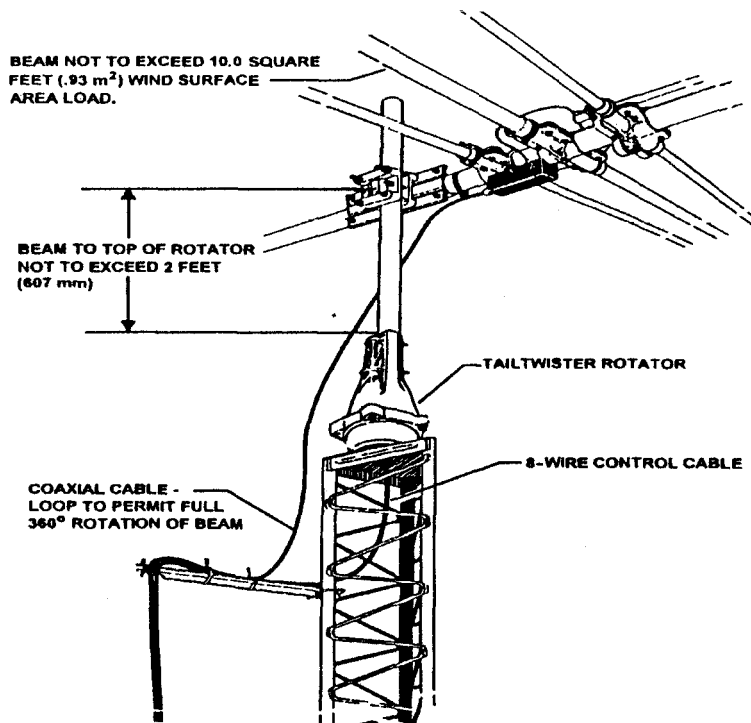
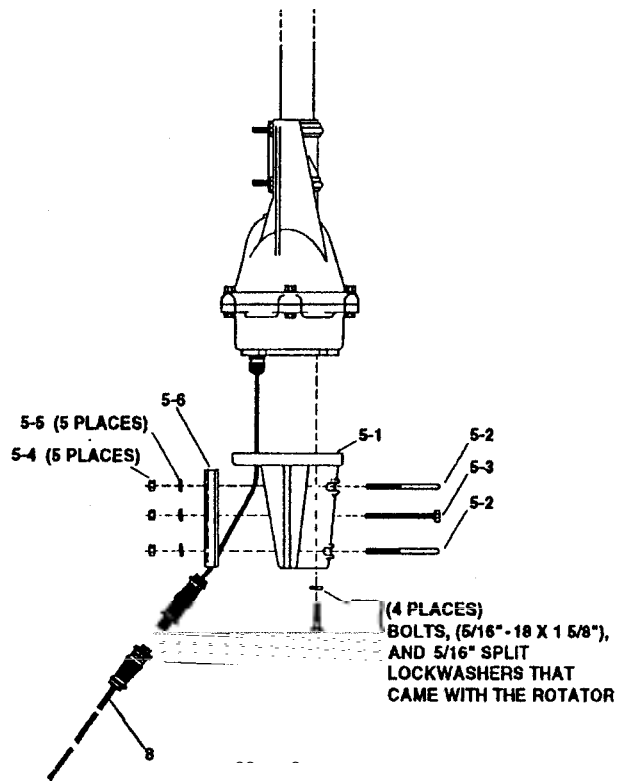

Figure 5
Figure 6
2. An "outside" Tower Mount (see Figure 6) is optional. The rotator is not well protected but the installation is simpler. With an "Outside" Tower Mount, the rotator must be derated to 10 square feet (.93 m2).
Referring to Figures 5, 6, and 7, an outside tower or pole mount is made in the same manner except that the rotator is fastened by four (4) bolts only (not six) to the Lower Mast Support, PN 51467 10. Since the eccentricity of the rotator turning in reference to the tower is no longer important, the shimming procedure is not necessary. The four (4) screws must be torqued to the same specification and the 8-wire cable securely fastened. The lower mast should be pinned with the 5/26"-18 x 4" bolt as shown in Figure 6.
The stock Taittwister T2X is intended to mount on the base plate inside of the tower. However, in some instances, outside tower or mast mounting is desired as per Figures 5 and 6. This kit, P/N 5146710 contains a heavy-duty lower mast support and the necessary hardware to facilitate mounting the T2X on top of a tower